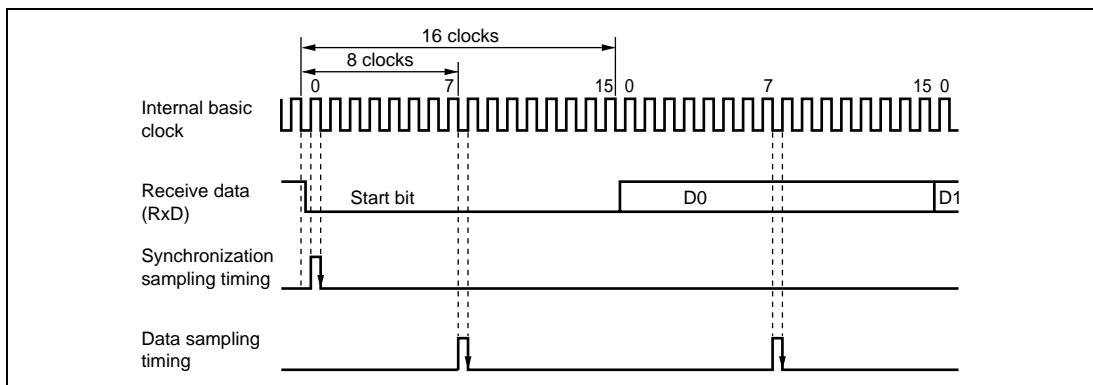

Figure 16.19 Receive Data Sampling Timing in Asynchronous Mode
In asynchronous mode, the SCI3 operates on a basic clock with a frequency of 16 times the transfer rate. In reception, the SCI3 samples the falling edge of the start bit using the basic clock, and performs internal synchronization. Receive data is latched internally at the rising edge of the 8th pulse of the basic clock as shown in figure 16.19. Thus, the reception margin in asynchronous mode is given by formula (1) below.